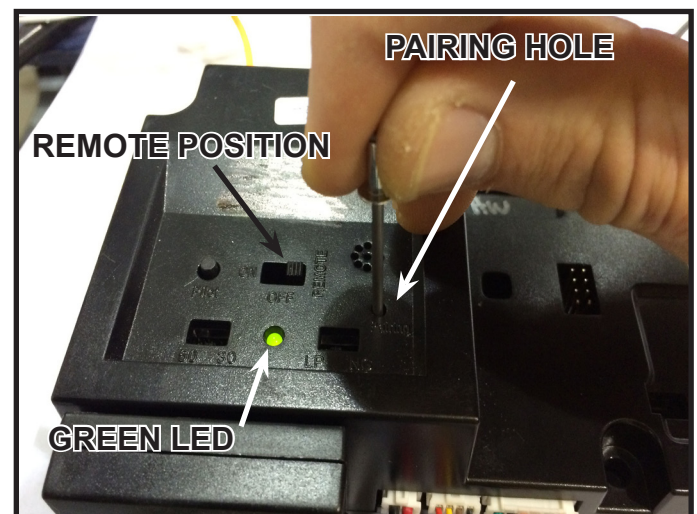

Figure 9 Pairing IFT-ECM
3. Place the IFT-RC400 inside the wall mount. See Figure 9.
2. Locate the pairing hole on the IFT-ECM. See Figure 9. Using a paper clip or similar item, press and release the pairing button. The IFT-ECM will "beep" once and the green LED will blink for 14 seconds. During the 14 seconds, it is normal for accessories such as lights or fan to energize momentarily.
3. Locate the pairing hole on the IFT-ECM. See Figure 9. Using a paper clip or similar item, press and release the pairing button. The IFT-ECM will “beep” once and the green LED blink for 14 seconds. During the 14 seconds, it is normal for accessories such as lights or fan to energize momentarily.